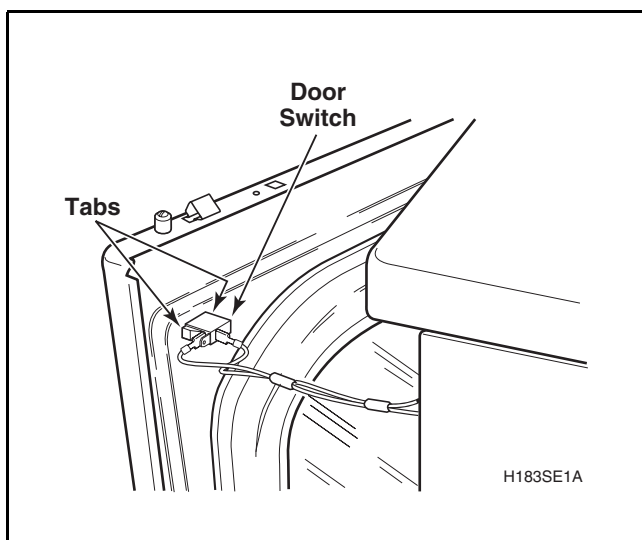

Figure 34
- e. Disconnect wires from door switch. Refer to *Figure 34*.
- d. Disconnect wires from door switch. Refer to *Figure 34*.
- e. Depress tabs on switch and push out of front panel. Refer to *Figure 34*.